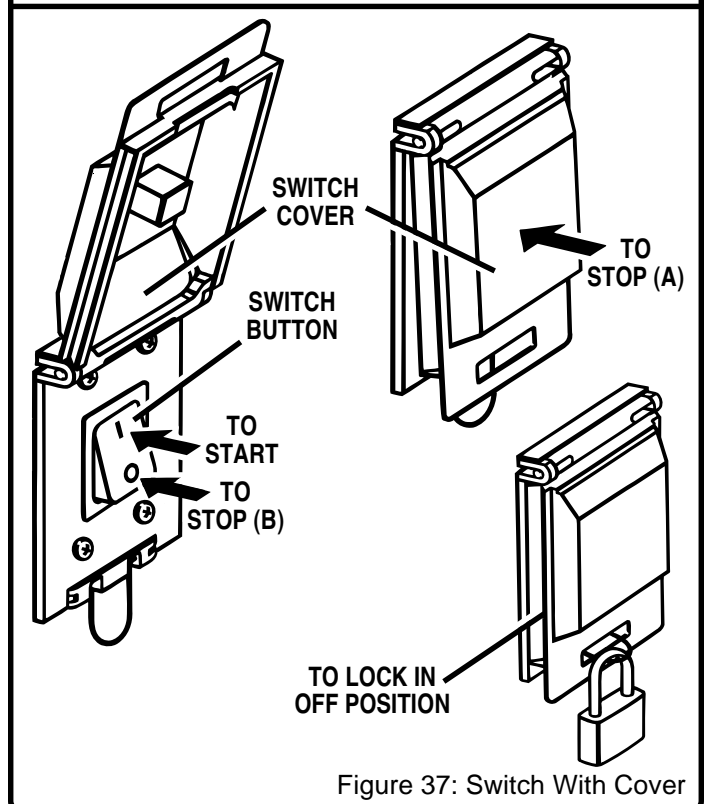

Figure 37: Switch With Cover
8. To turn saw **OFF**, (A) press or push outside of switch cover, or (B) lift switch cover and press switch button. See Figure 37.
**NOTE:** To prevent unauthorized use, lock your saw in the **OFF** position with a padlock as shown in figure 37.